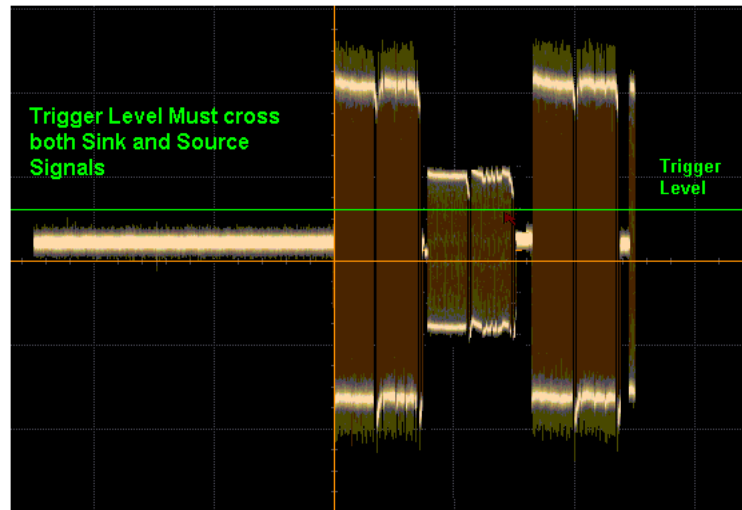
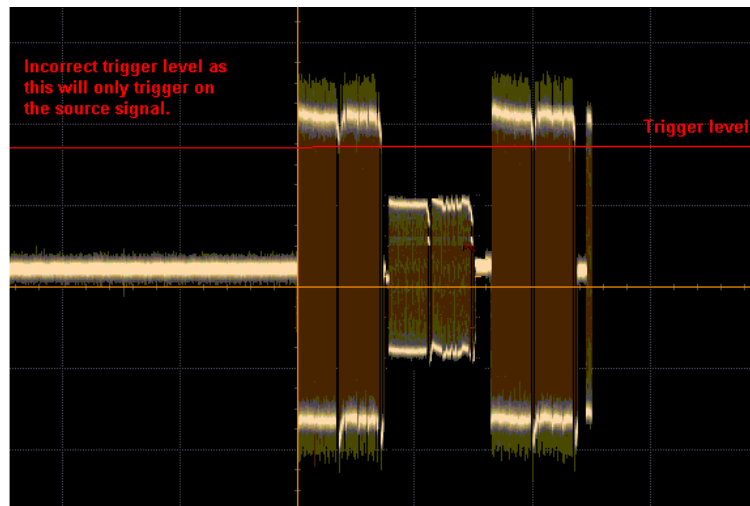

Figure 225 Correct Trigger Level
Figure 226 Incorrect Trigger Level
- **Trigger Level** – The AUX Channel signal level on which to trigger. Note that for a bi-directional signal (where a reference sink is attached), you must set the trigger level such that it crosses both the source command and the sink reply signal. Figure 225 and Figure 226 shows correct and incorrect trigger levels.